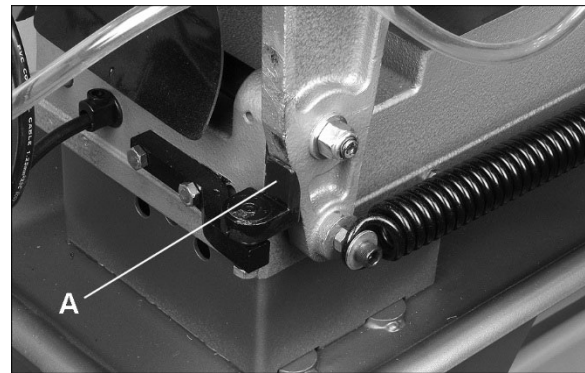

Figure 8-1: disengaging stop bracket
2. Rotate stop bracket (A, Figure 8-1) and hold it out of the way, while lifting bow to upright position. **Pinch point – use caution!**